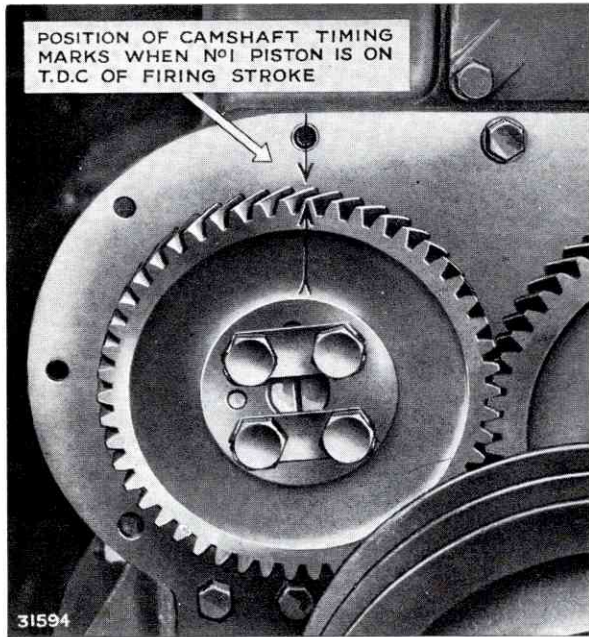

FIG. 33. CAMSHAFT TIMING MARKS
7. Remove the four setscrews and locking plates securing the gear to the camshaft and withdraw the gear, taking care to note the position of the timing mark on the gear in relation to the mark on the timing back plate when No. 1 piston is on T.D.C. of firing stroke Figs. 33, 34.